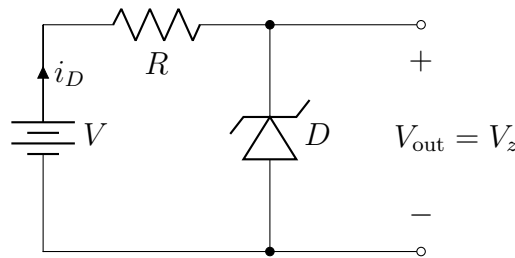

Figure 7: Zener Diode Circuit
4. Build the circuit in Figure 7 on a breadboard. There are Zener diodes in the parts bin.
8. Repeat steps (2) – (4), but measure current.